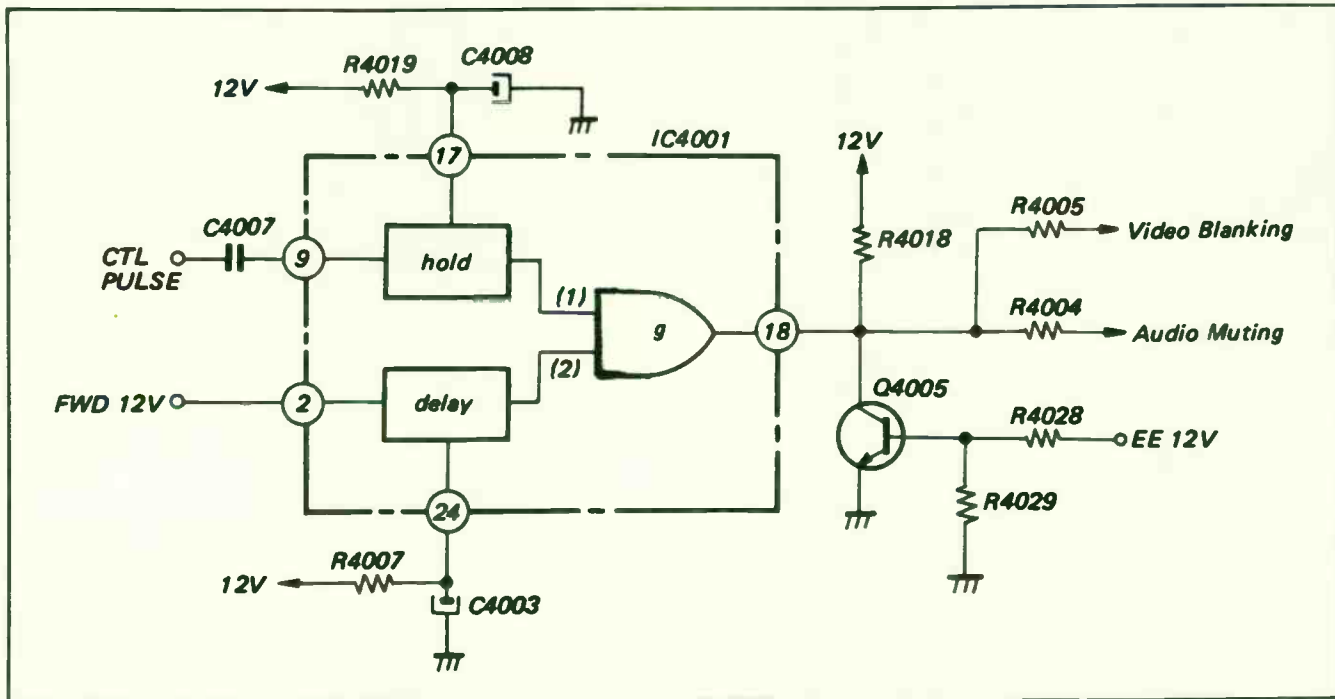

Fig. 4-6. Blanking and muting circuit.
modes, except play, record and E to E. Note the video blanking circuit in Fig. 4-6. With no input to pin 9 or pin 2 of IC4001, the inputs (1) and (2) to the AND gate are high and the output at pin 18 of IC4001 is high, causing the video to blank and the audio to mute. When the play mode is activated, the tape starts moving and the CTL pulse is applied to pin 9 of IC4001, causing a low at pin (1) of the AND gate.